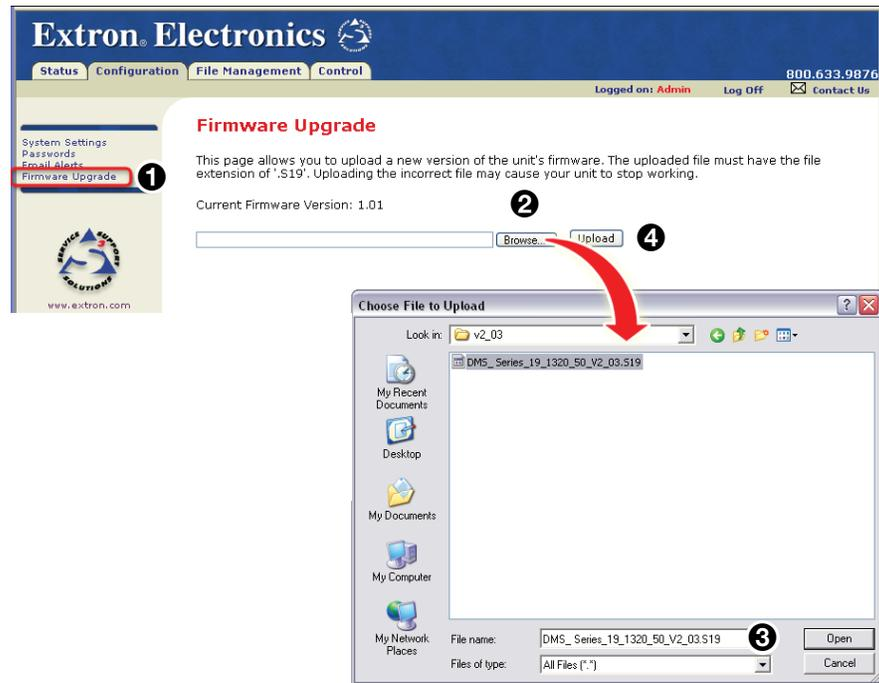

Figure 64. Firmware Upgrade
5. Click the **Firmware Upgrade** link (see figure 64 [1]).